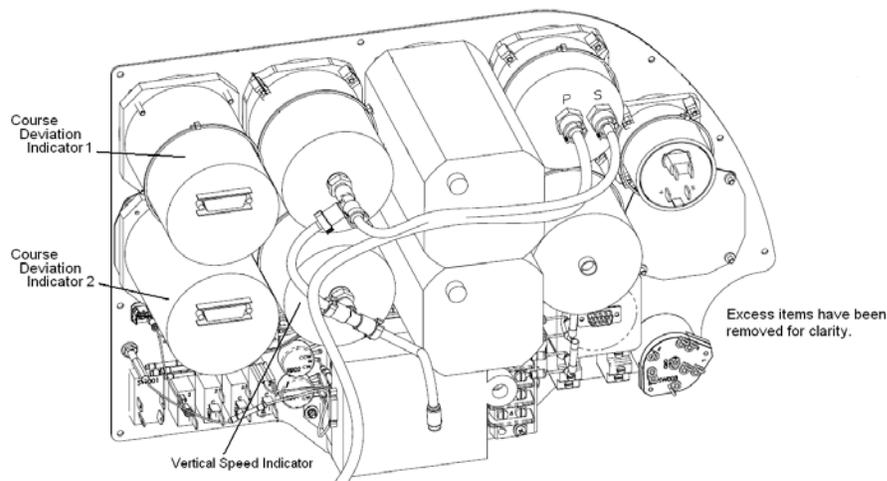

Figure 34-23 Rear View of the instrument Panel Showing Location of the Vertical Speed Indicator
6. Disconnect static line (green) from the vertical speed indicator. See Figure 34-23 for location of the vertical speed indicator and the green static line.